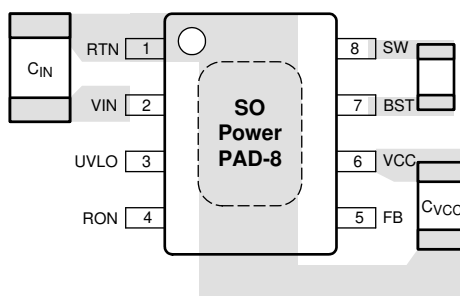

Figure 10-1. Placement of Bypass Capacitors
1. C_{IN} : The loop consisting of input capacitor (C_{IN}), V_{IN} pin, and RTN pin carries switching currents. Therefore, the input capacitor must be placed close to the IC, directly across V_{IN} and RTN pins, and the connections to these two pins must be direct to minimize the loop area. In general, it is not possible to accommodate all of input capacitance near the IC. A good practice is to use a 0.1- μ F or 0.47- μ F capacitor directly across the V_{IN} and RTN pins close to the IC, and the remaining bulk capacitor as close as possible (see Figure 10-1).
2. C_{VCC} and C_{BST} : The V_{CC} and bootstrap (BST) bypass capacitors supply switching currents to the high and low side gate drivers. These two capacitors must also be placed as close to the IC as possible, and the connecting trace length and loop area should be minimized (see Figure 10-1).